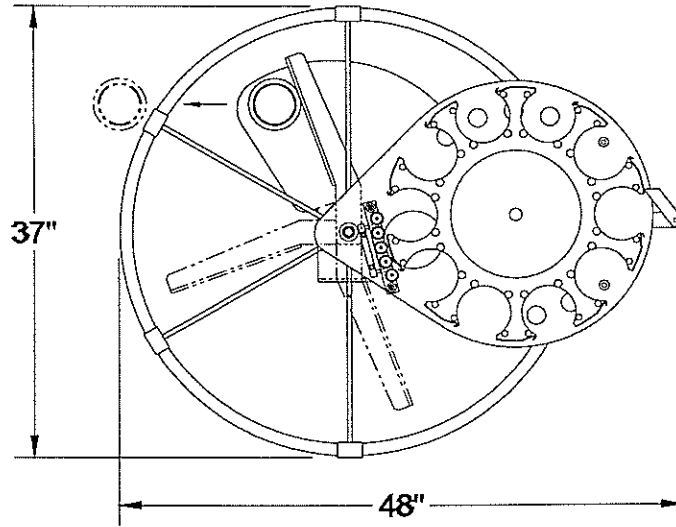

FIGURE 1 - PLAN VIEW
1. The trap may be mounted to any suitable platform or surface, providing it is sturdy and provides a means to bolt the trap down in four places. Overall trap dimensions are shown in figures 1 and 2.